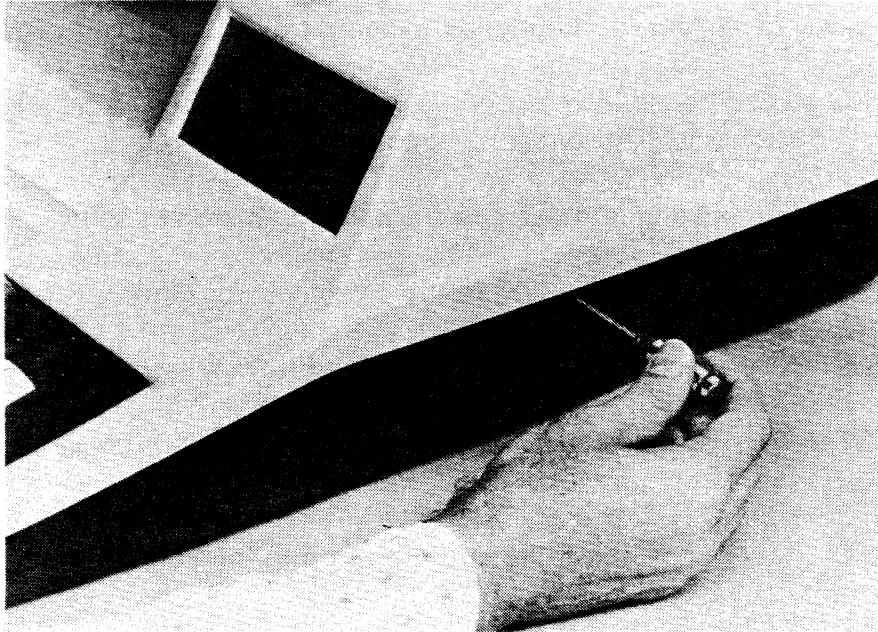

Figure 3-2. Print Contrast Adjustment
1. Locate the adjustment hole provided on the right side of the terminal. You will use a small screw driver as shown in Figure 3-2.